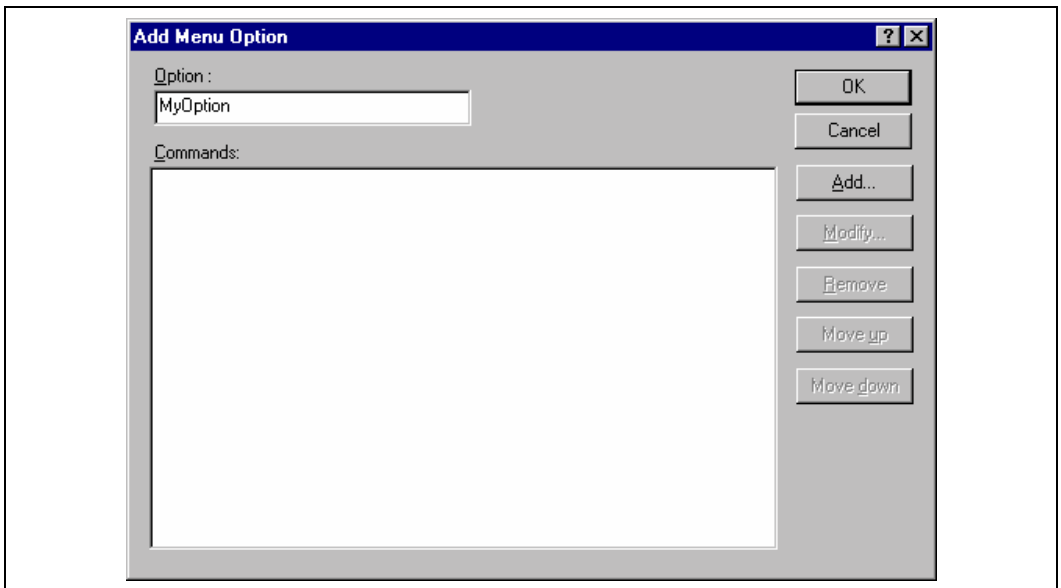

Figure 8.4: Add Menu Option Dialog
2. Click the “Add..” button. The dialog shown in figure 8.4 will be displayed.
2. Select the menu option to be modified from the “User menu options” list and then click the “Modify...” button beside the list. The dialog shown in figure 8.4 will be displayed. (The title of the dialog is “Modify Menu Option”.)